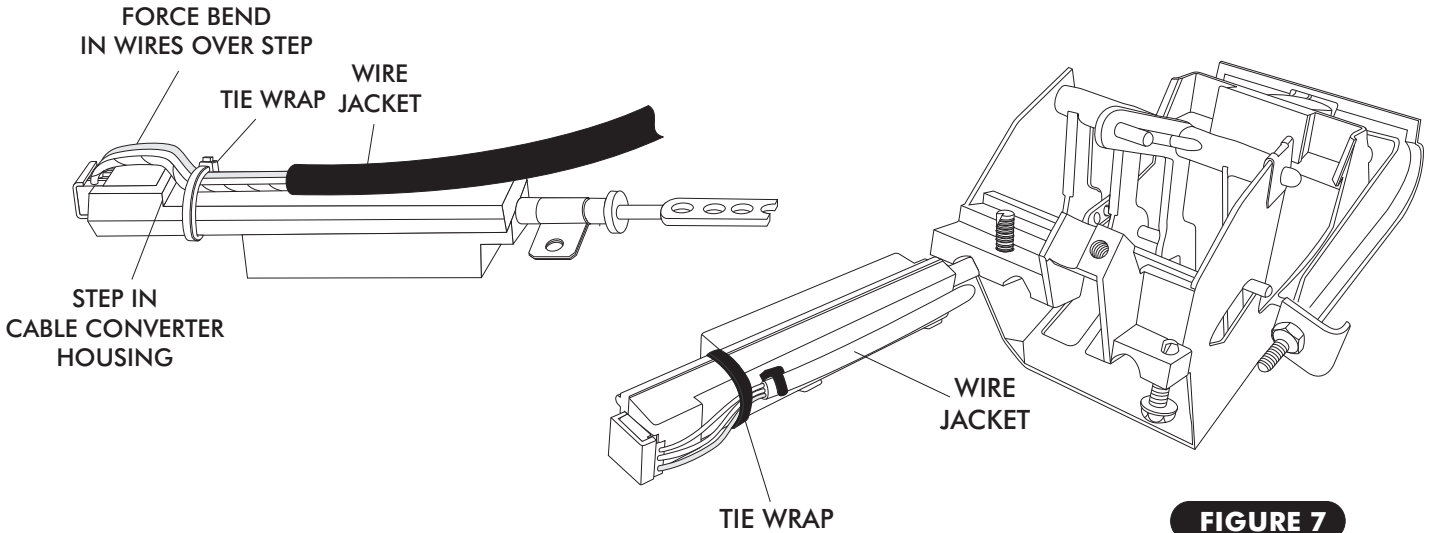

FIGURE 7
- ONCE WIRES ARE CORRECTLY PLUGGED INTO CABLE CONVERTER ASSEMBLY, SECURE WIRES TO THE CABLE CONVERTER ASSEMBLY USING TIE WRAPS (SUPPLIED). SEE FIGURE 7 BELOW. THE TIE WRAP MUST BE LOCATED BETWEEN THE END OF THE WIRE JACKET AND THE STEP IN THE CABLE CONVERTER HOUSING FORCING A BEND IN EACH WIRE AS THEY PASS OVER THE STEP IN CABLE CONVERTER HOUSING. HEAD OF TIE WRAP MUST FALL ON EDGE OF HOUSING AS SHOWN TO REMAIN TIGHT. ENSURE THAT THE TIE WRAPS ARE SNUG ENOUGH THAT THE WIRES CANNOT MOVE. SEE FIGURE 7.